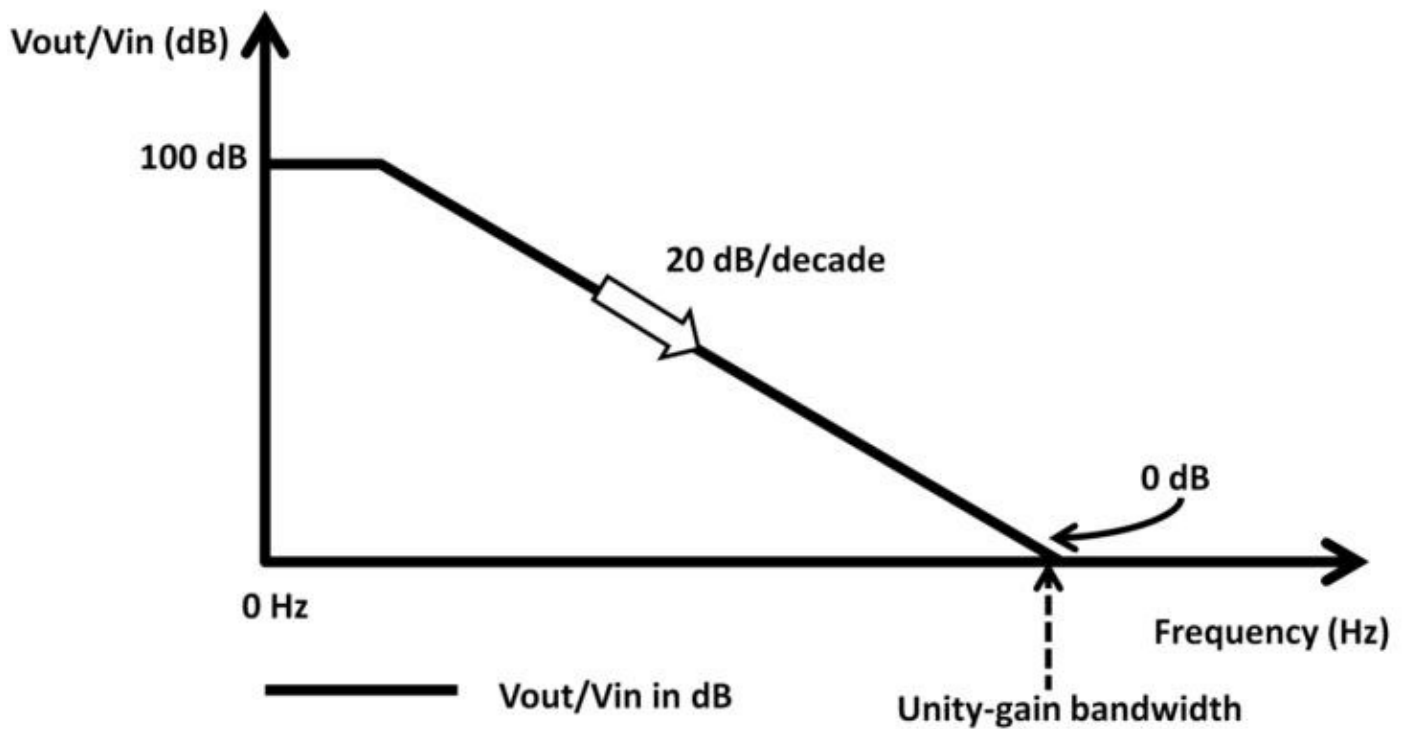

Figure 4.53: Op-amp gain vs. frequency
Recall the low-pass filter in chapter 3, AC. We could use a bode plot to explain op-amp gain vs. frequency (see figure 4.53). Ideally, the higher the unity-gain bandwidth, the better the op-amp will be. Transistors are active devices. An op-amp is made primarily of transistors. At low frequency (DC), gains in dB would be much more than 0 dB as opposed to